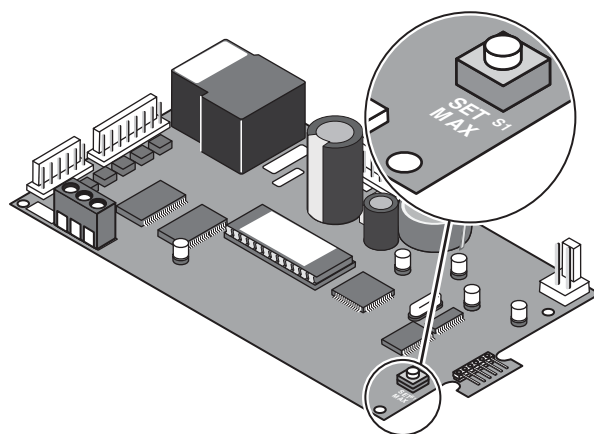

Figure 33.
3. Push the **Max. Temp. Set Point** button on the back of the control board (see **Figure 33**).